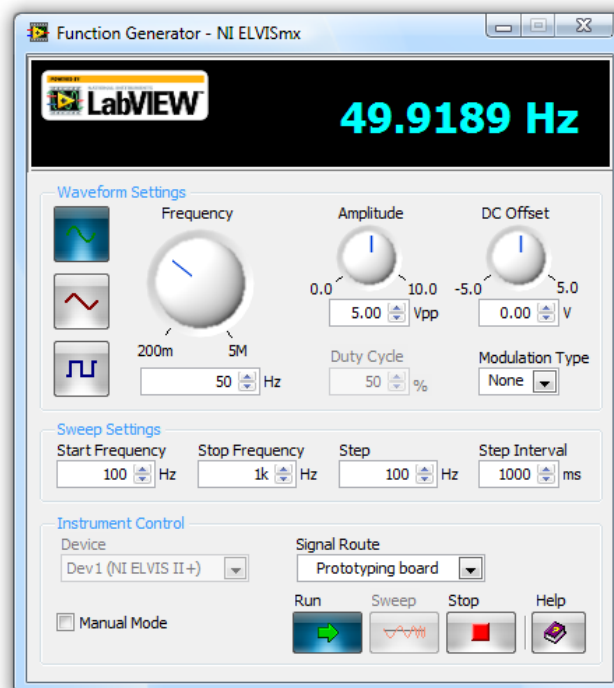

Figure 3.6: NI Elvis II Function Generator
2. Launch function generator and set 5Vpp, 50 Hz, Sine wave as shown in the figure 3.6.